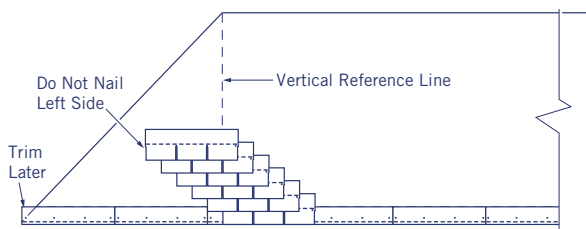

Figure 9-3: Section 1-A
- Apply the first shingle of each course above the first course by overlapping the reference line by the required amount as directed by the application instructions for the product. DO NOT nail the left end of these shingles at this time. (There will be a total of four or six courses per diagonal section depending on the product being installed.) (See Figure 9-3). Figure 9-3: Section 1-A